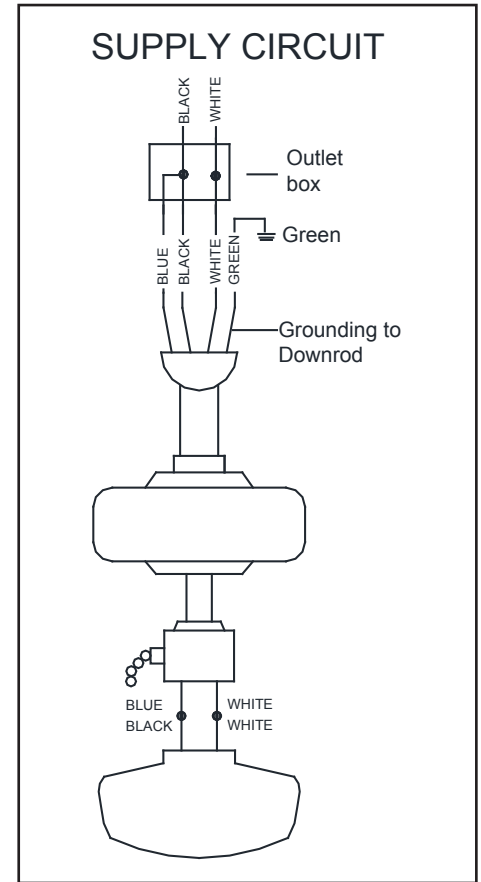

Figure 10
Follow the steps below to connect the fan to your household wiring. Use the wire connecting nuts supplied with your fan and supplied with remote control. Secure the connectors with electrical tape. Make sure there are no loose strands or connections. (Figure 10)
3. Connect the fan supply (black and blue) wire to the black household supply wire as shown in figure 10.